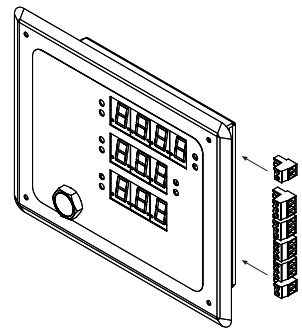

Figure 7
STEP 7 - As illustrated in Figure 7, run poly tubing onto the pressure port that is mounted on the rear of faceplate. Connect poly tube to customer supplied pressure vent (i.e. Greystone RPV).